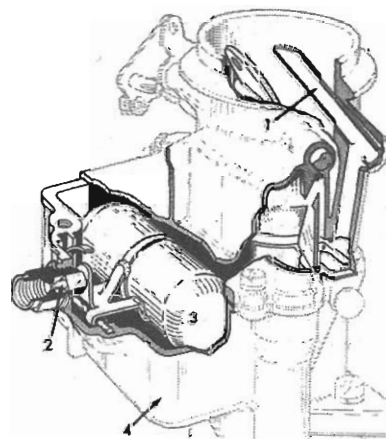

FIG. 2
Float System -- In the float system (see Fig. 2) gasoline enters the bowl (4) through the needle valve (2). The operation of the needle valve is controlled by the float (3) and the height of the fuel level in the bowl. The balance vent tube (1) allows atmospheric pressure to be equalized between the air intake and the fuel bowl.